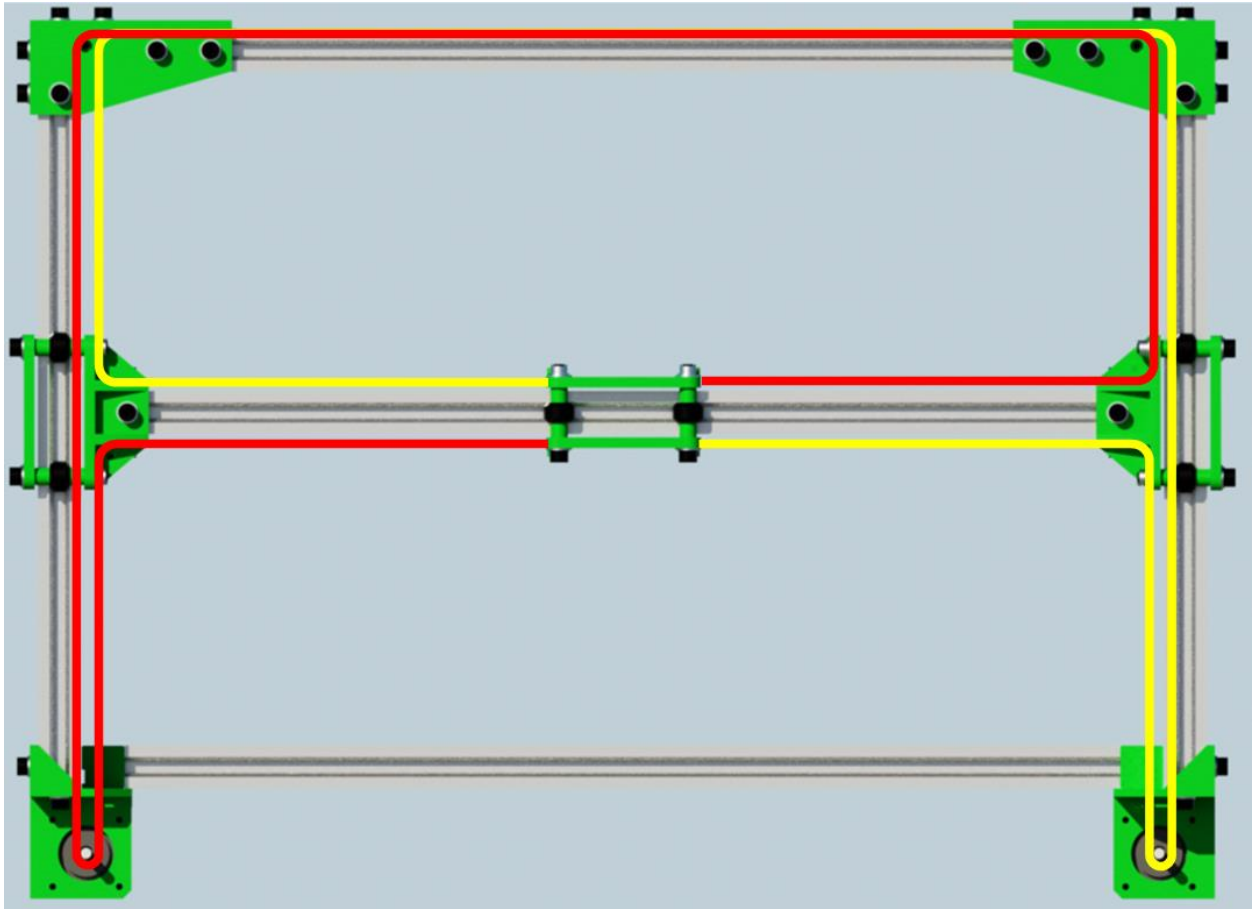

Figure 52: Core-XY Belt Routing
- Route the two GT2 belts around pulleys and bearings as shown in Figure 52.